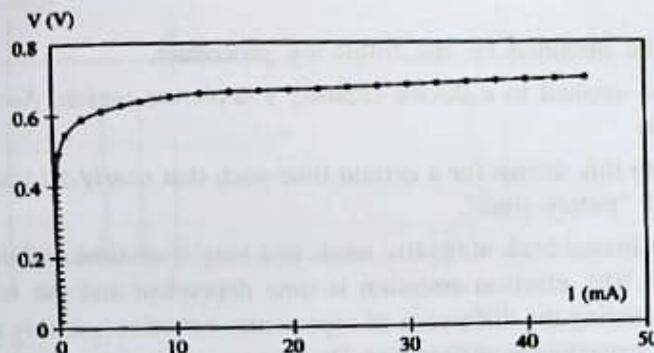

FIG. 4.6 : DESCRIPTION OF THE EXPERIMENTAL (I, V) CHARACTERISTIC (DOTTED LINE) WITH THE ONE EXPONENTIAL MODEL
- Fig. 4.6 illustrates this result and shows junction (I, V) characteristics (dotted line)